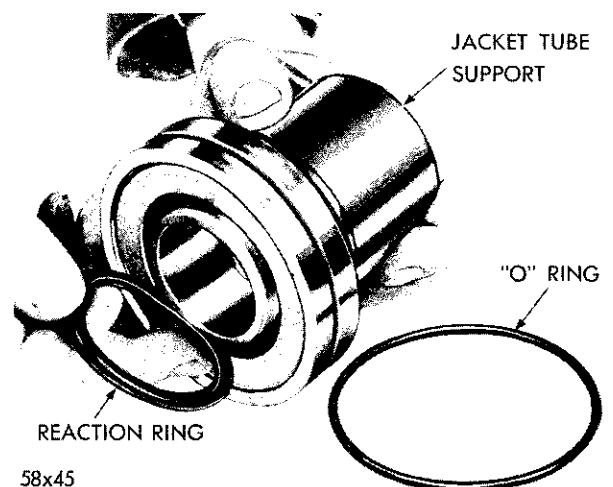

Fig. 32—Installing Reaction Seal into Jacket Support
(2) Lubricate and install the reaction seal in the groove in the face of the column jacket support with the flat side of the seal out (Fig. 32).